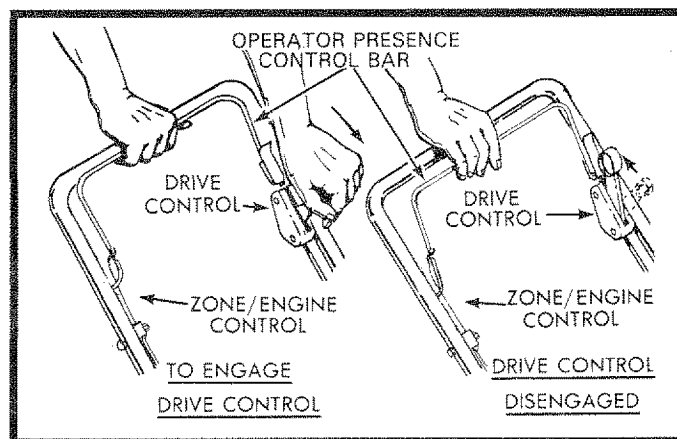

FIG. 6
- Self-propelling is controlled by holding the Operator Presence Control Bar down to the Handle and pushing the Drive Control Lever forward until it clicks; then release the Lever (See Fig. 6).